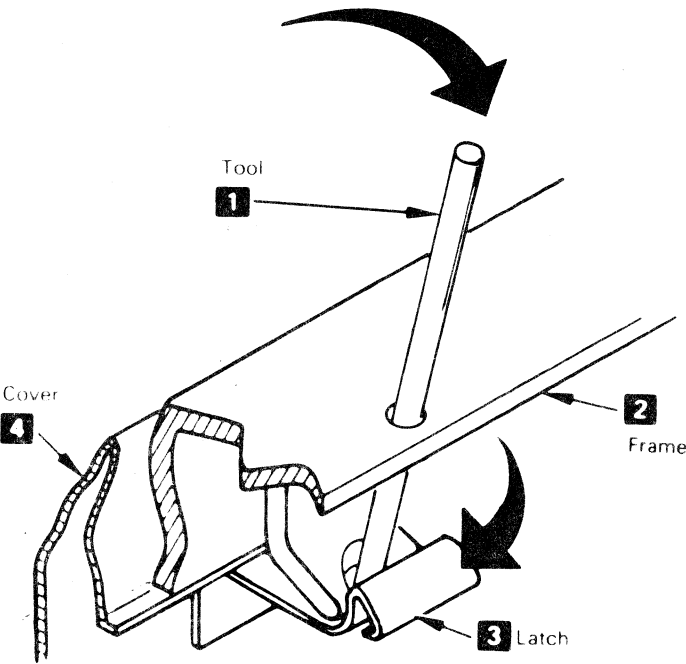

Figure 1. Cover Removal
- 3. See Figure 1. To remove the front and rear covers 4, insert a tool (screwdriver) 1 into the holes in top of the front and rear frames 2, use a sidewise and gentle downward pressure to unlatch the two latch springs 3 (one at a time) and pull the cover outward.